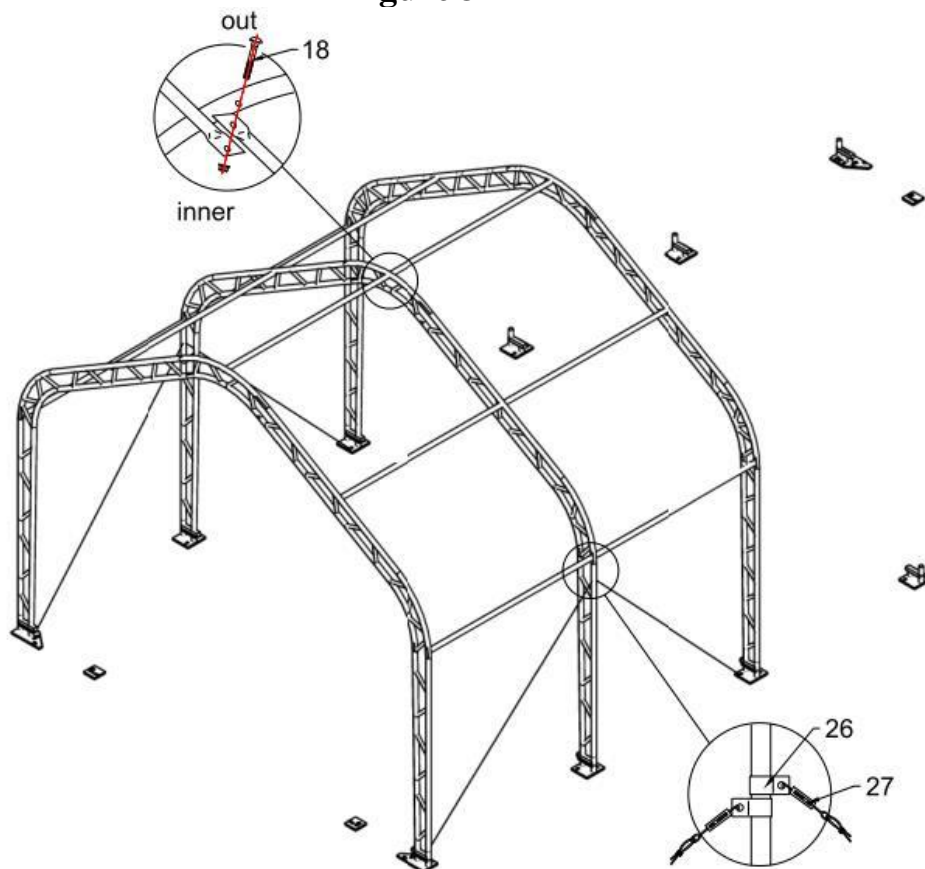

Figure 4
2. As shown to lift an assembled arch onto one base plate and force the other end of the arch onto the opposite base plate. Connect purlin (No.5) to arch by using carriage bolt M10*90mm (No.18) by turns (see Figure 4), then connect the steel wire (No.27) on top and side by using clips (No.26).